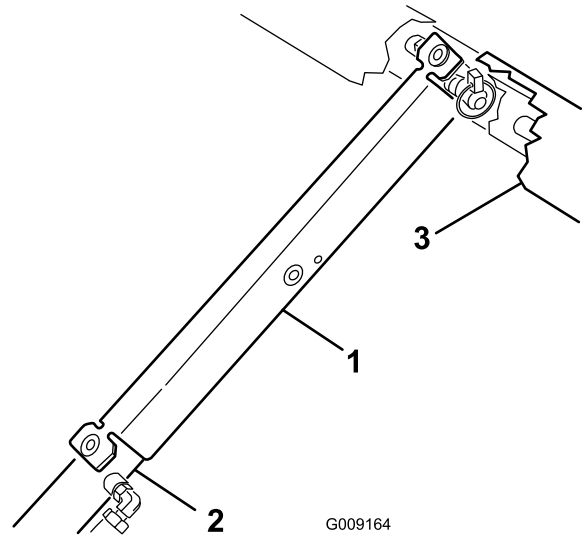

Figure 33
3. Push the bed support onto the cylinder rod, ensuring that the support end tabs rest on the end of the cylinder barrel, and on the cylinder-rod end (Figure 33).